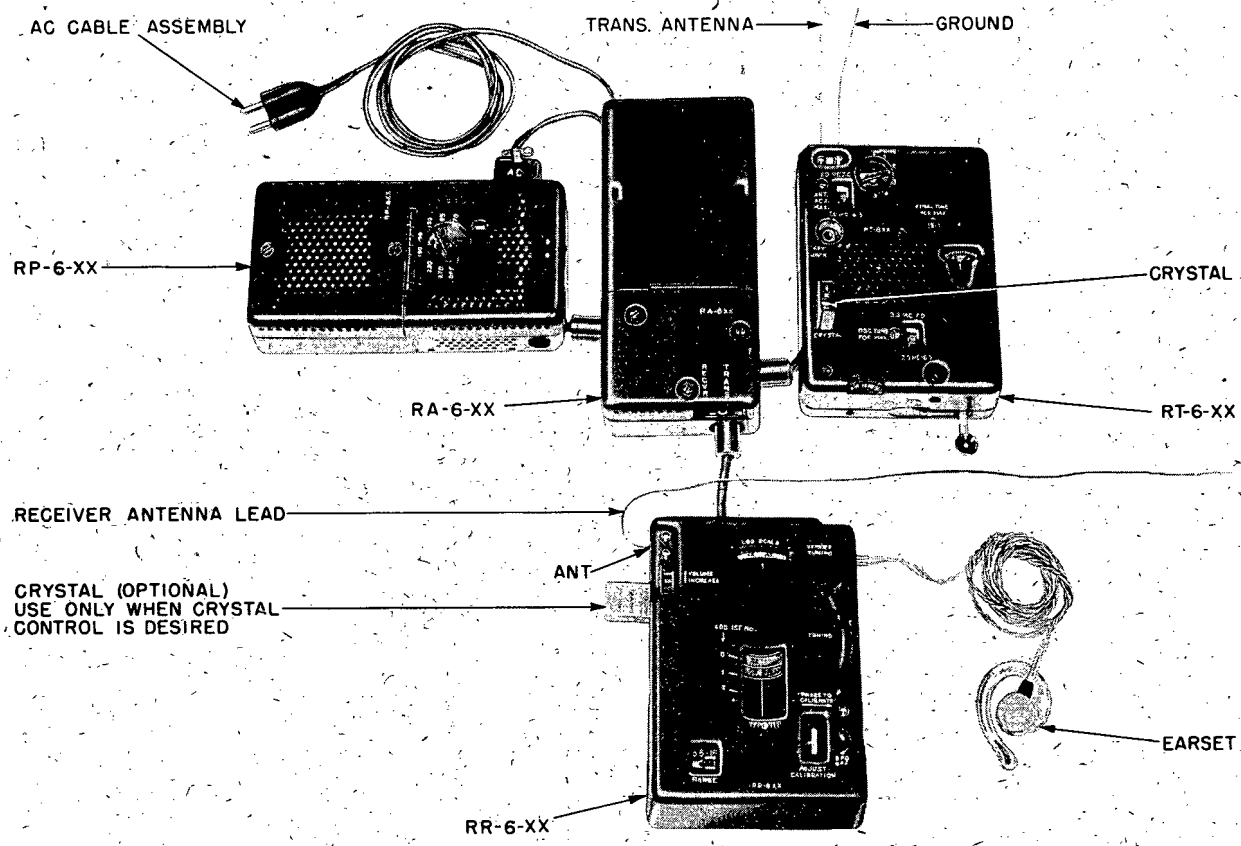

Figure 5. Radio Station RS-6-XX a-c operation hook-up
c. Connect equipment as shown in Figure 5. (Receiver crystal shown is optional).
(1) The Jones plug marked AC must be inserted in the OPERATE receptacle on Power Supply RP-6 before the power plug is connected to an a-c power source, otherwise "hot" terminals will be exposed and a power line fuse may be blown.
(2) Connect the two-prong plug of the a-c cable assembly to any a-c power source whose voltage is between 70 and 270 volts, and frequency between 40 and 400 cycles. The two-prong a-c power plug can be adapted to various receptacles in the following ways: